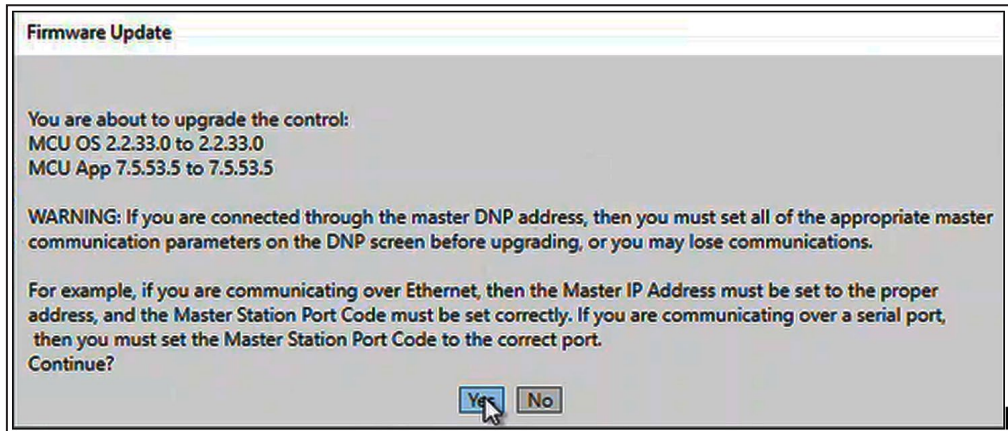

Figure 31. The Firmware Update dialog box.
STEP 10. In the Firmware Update dialog box, click on the **Yes** button. See Figure 31. Selecting “No” will end the **Update** process.